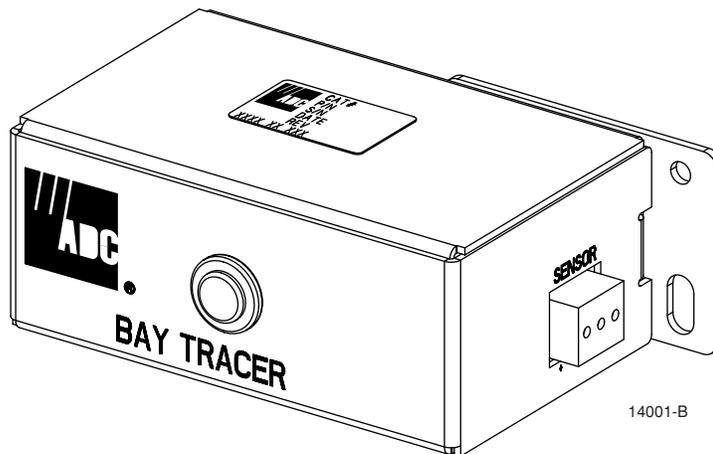

Figure 2. Bay Tracer Electronic Sensor Device with Mounting Bracket
1. Attach the Bay Tracer Electronic Sensor Device mounting bracket to the top cross member or vertical support flange of the DSX-1 or DSX-3 bay using two provided 12–24 rack mounting-screws. See Figure 2.